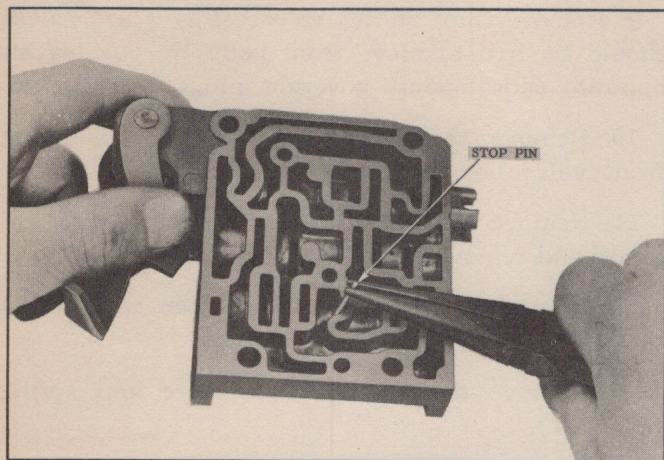

Fig. 184—Removing Stop Pin
16. Remove stop pin (needle bearing roller) holding compensator auxiliary plug in place (Fig. 184).